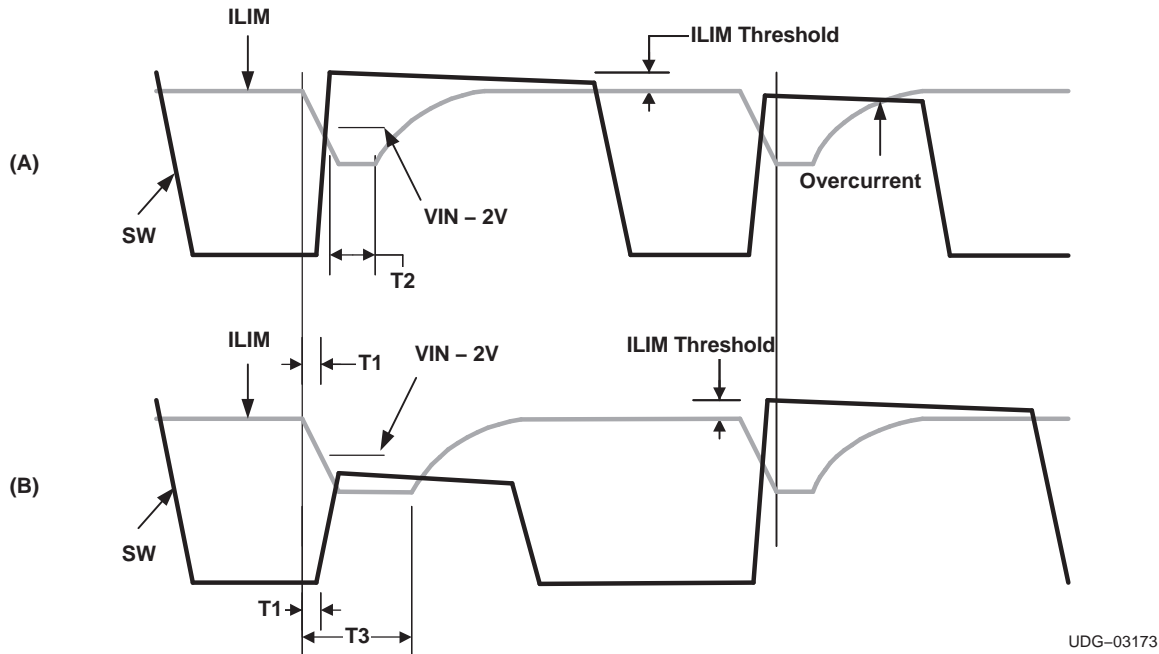

Figure 24. Switching and Current-Limit Waveforms and Timing Relationship
The TPS40077 uses a two-tier approach for short-circuit protection. The first tier is a pulse-by-pulse protection scheme. Short-circuit protection is implemented on the high-side MOSFET by sensing the voltage drop across the MOSFET when its gate is driven high. The MOSFET voltage is compared to the voltage dropped across a resistor (R_{ILIM}) connected from V_{VDD} to the ILIM pin when driven by a constant-current sink. If the voltage drop across the MOSFET exceeds the voltage drop across the ILIM resistor, the switching pulse is immediately terminated. The MOSFET remains off until the next switching cycle is initiated. This is illustrated in Figure 24.
In addition, just prior to the high-side MOSFET turning on, the ILIM pin is pulled down to approximately half of V_{VDD} . The ILIM pin is allowed to return to its nominal value after one of two events occurs. If the SW node rises to within approximately 2 V of V_{VDD} , the device allows ILIM to go back to its nominal value. This is illustrated in Figure 24(A). T1 is the delay time from the internal PWM signal being asserted and the rise of SW. This includes a driver delay of 50 ns, typical. T2 is the reaction time of the sensing circuit that allows ILIM to start to return to its nominal value, typically 20 ns. The second event that can cause ILIM to return to its nominal value is for an internal timeout to expire. This is illustrated in Figure 24(B) as T3. Here SW never rises to $V_{VDD} - 2$ V, for whatever reason, and the internal timer times out, releasing the ILIM pin.